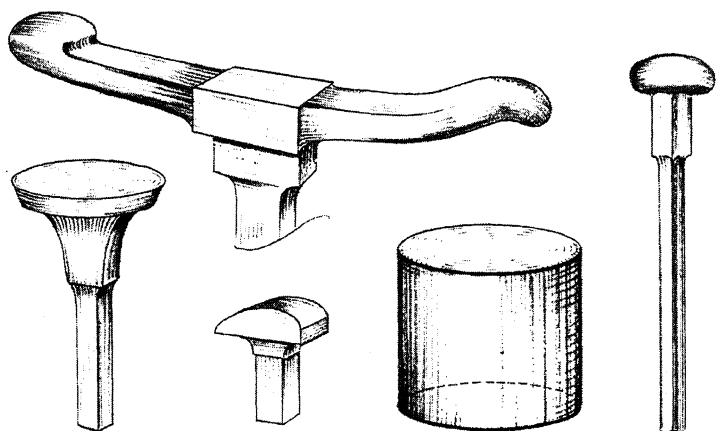

FIG. 1
2. Select a stake or iron that has a curvature as near to that of the work as possible (Fig. 1).